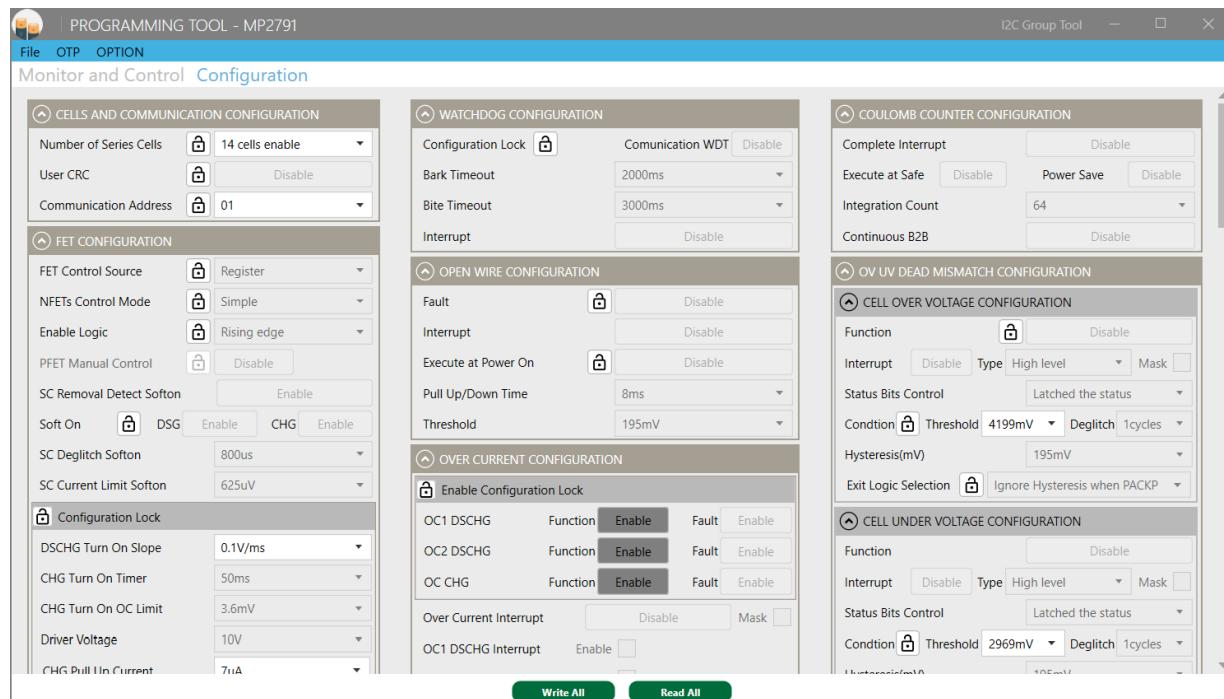

Figure 12: NVM View
4. In NVM view, all parameters that are not relevant to the MTP cannot be modified. Any other parameters can be modified as necessary (see Figure 12).